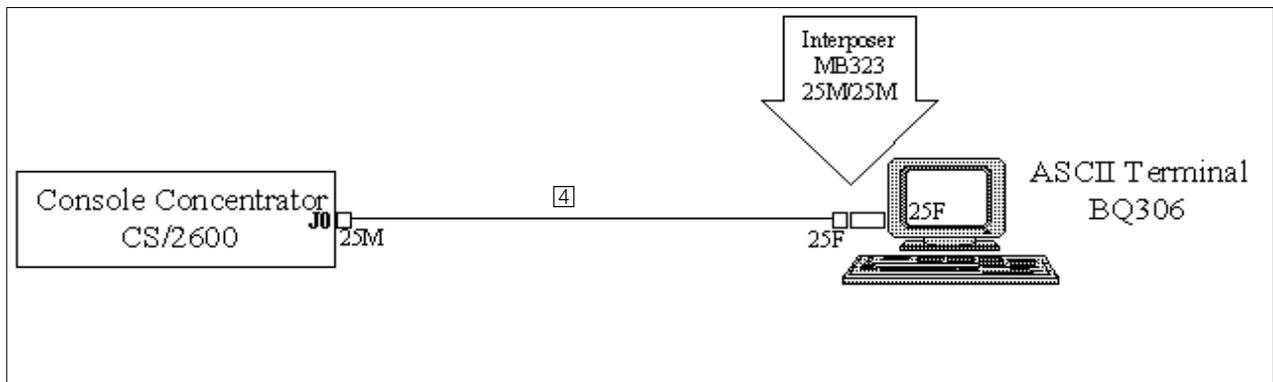

Figure 11. Cabling of the System Console to the Console Concentrator
- Escala EPC configuration with Console Concentrator: the System Console can be used with a Cluster Console or a PowerConsole. In that case, the System Console is connected to a serial port on the Console Concentrator, as shown on Figure 11.